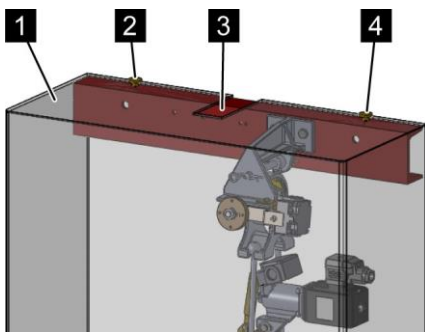

Fig. 82: Mounting the protective hood
39. ➤ Screw the protective hood (Fig. 82/1) onto the U-profile (Fig. 82/3) from above (Fig. 82/2+4).